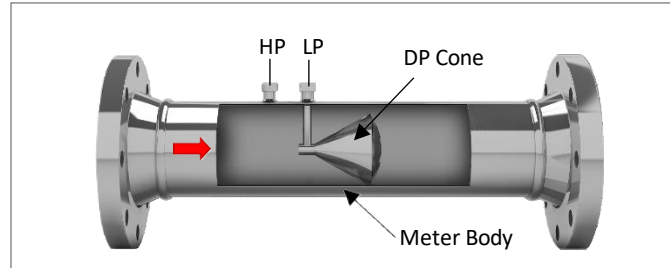
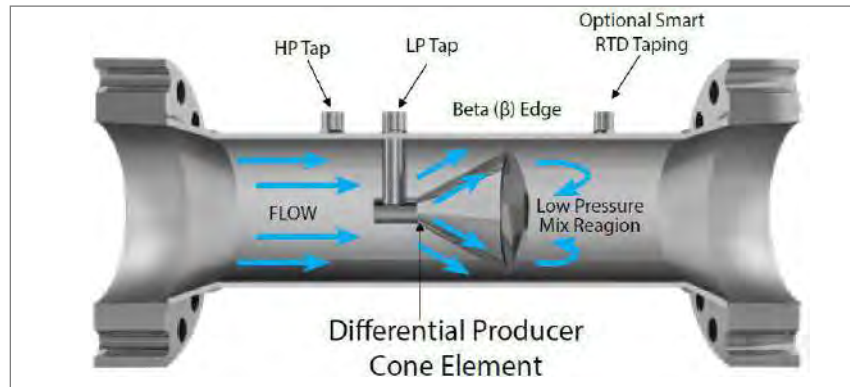

Fig 1: Basic components of the Tek-DP 1620A Cone Meter
Fig 2: TEK-DP 1620A DP Cone Meter (Cutaway View – Flow Streams)
The cone meter comprises three main components, as shown in Figure 1 & Figure 2.
A DP / MVT transmitter measures the differential pressure and outputs an integrated electronic signal, typically via standard Modbus or a 4-20 mA output to a flow measurement computer with cone meter equations installed, or other process control tertiary device for readout and review. For compressible fluids (gasses), line pressure and temperature measurements are required for accurate flow rate calculations such as custody transfer applications as well as compensation for any adiabatic changes in the meter expansion factor also detailed in ISO 5167 Part 5. During normal operation process fluids flow around the differential producer cone, and pressure drop occurs according to Bernoulli principles of conservation of energy. The static line pressure (P1) is measured via a wall tap strategically located upstream of the cone (Figure 2). Pressure is also measured via a sensing tap that is connected to the cone center using a conduit and measures pressure at a central point immediately downstream of the cone (P2). The fluid flow-rate is calculated using the differential pressure (DP).